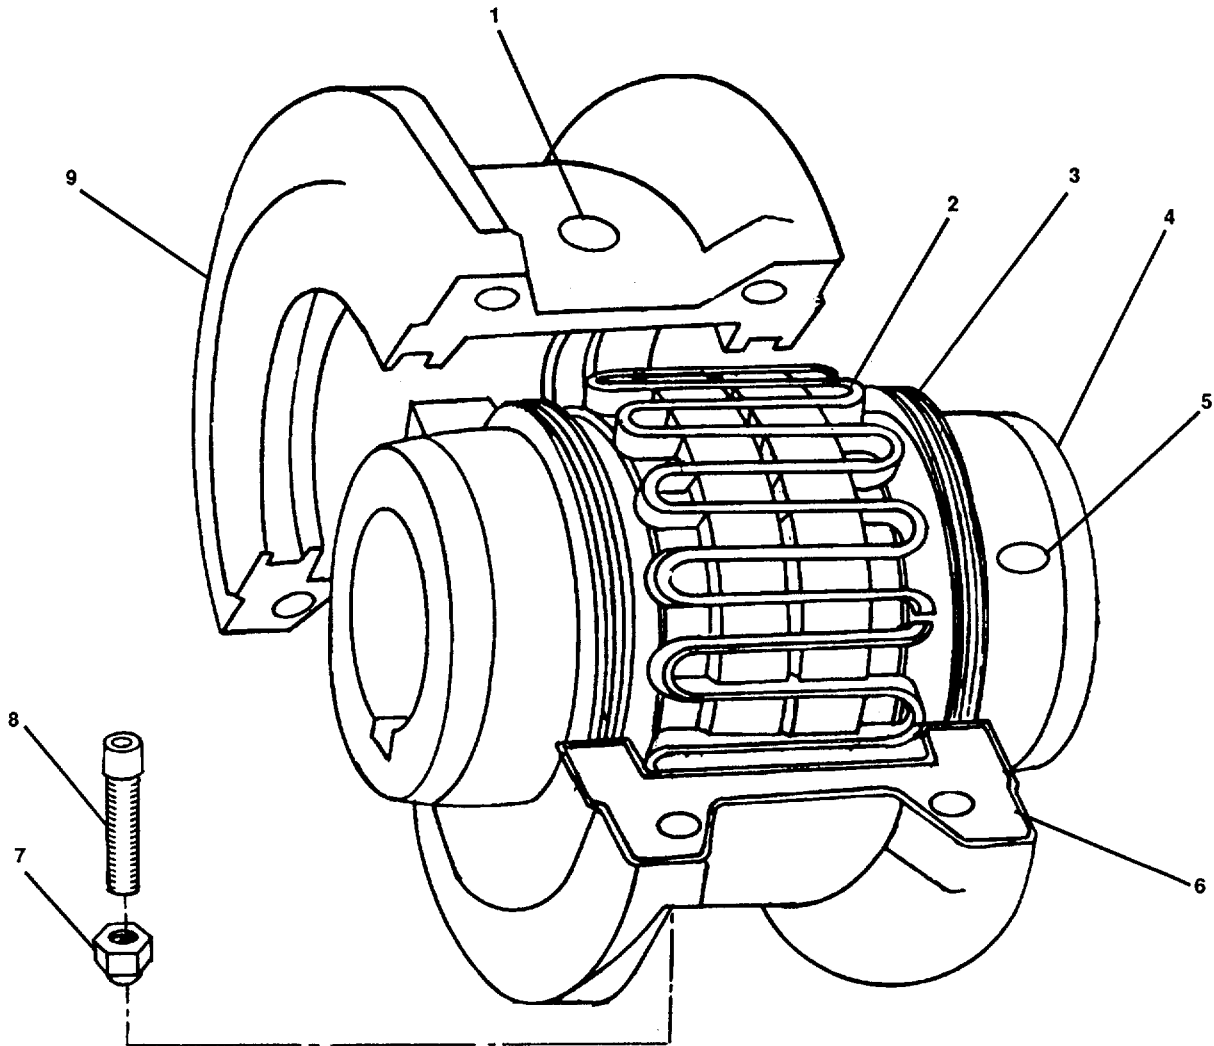
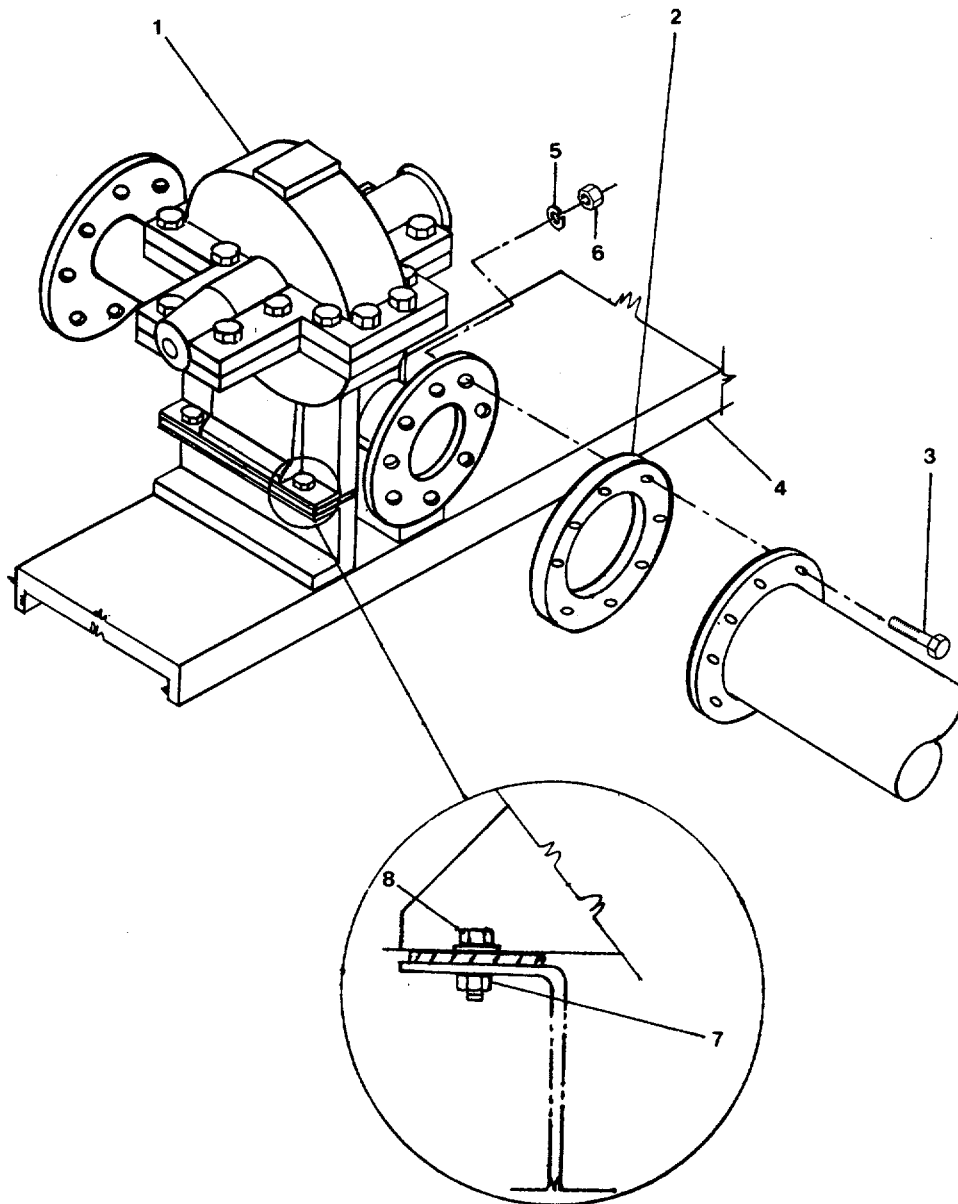

FIGURE 3-1. Flexible Shaft Coupling.
FIGURE 3-2. Auxiliary Pump Assembly Replacement.
3-13. Replace Auxiliary Fire Pump Assembly. (FIGURES 3-1 and 3-2)
- b. Remove flexible shaft coupling cover bolts (8, FIGURE 3-1) and nuts (7); remove two each cover halves (9) and gasket (6).
- c. To remove grid (2), insert a round rod or screwdriver into grid open loop ends. Pry the grid out. Hubs are now separated.
- d. Remove from pump suction and discharge piping flanges (FIGURE 3-2) hexagon nuts (6), hexagon machine bolts (3), lock washers (5), and gasket (2).
- f. Remove from pump foundation (4) self locking nuts (7), machine bolts (8), bevel washers () and resilient mounts (Detail A).
- a. Using the lifting sling, set auxiliary fire pump assembly (1) onto pump foundations (4, FIGURE 3-2).
- b. Align pump (1) on foundation (4), installing resilient mounts (Detail A), bevel washers, machine bolts (8), and self locking nuts (7).
- c. Secure nuts (7), leaving loose enough to move pump for final alignment.
- d. Align pump suction and discharge piping flanges to piping and install gaskets (2), hexagon machine bolts (3), lock washers (5), and hexagon nuts (6). Secure nuts (6) hand tight until final pump alignment.
- (1) Insert a spacer bar, .125 in. to the same depth at 90° intervals between hubs.
- (2) Insert a feeler gauge between the spacer bar and the hub and measure the clearance. The difference in minimum and maximum measurements must not exceed the angular limit of .010 in.
- (3) Set a straight edge squarely across both hubs at 90° intervals and check with feelers. The clearance must not exceed the offset limit of .010 in.
- (4) Secure all pump foundation bolts (8) and repeat steps (1), (2), and (3). Realign coupling as required.
- (5) Pack the gap between hubs and grooves with specified lubricant.
- (6) Spread grid (2, FIGURE 3-1) lightly to pass over coupling teeth and tap in place with soft mallet.
- (7) Pack spaces between and around grid (2) with lubricant and wipe excess flush with top of grid.
- (8) Position seals (3) on hubs to line up with cover grooves.
- (9) Position gaskets (6) on flanges of lower cover half.
- (10) Assemble covers (9) so that the match marks are on the same side and install cover bolts (8) with nuts (7).